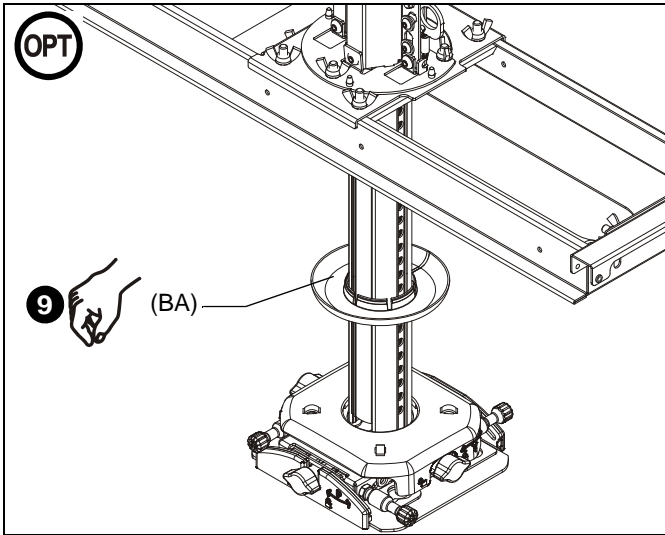

Figure 20
9. **OPTIONAL:** Install column trim ring (BA) on extension column below or flush with ceiling tile. (See Figure 20)